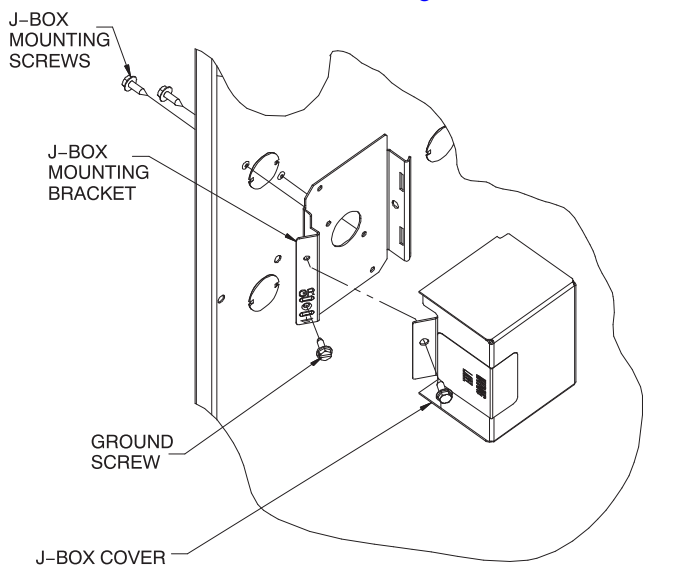

Fig. 34 – J-Box Bracket Installation
5. Fasten the external electrical box to the furnace casing using two (2) sheet metal screws.
11. Connect field power and neutral leads to furnace power leads inside the external electrical box as shown in Fig. 34.
1. Install J-Box mounting bracket to inside of furnace casing (Fig. 34).
5. Connect field ground wire and factory ground wire to green ground screw on J-Box mounting bracket as shown in Fig. 34.
- Connect field ground wire and factory ground wire to green ground screw on J-Box mounting bracket as shown in Fig. 34.